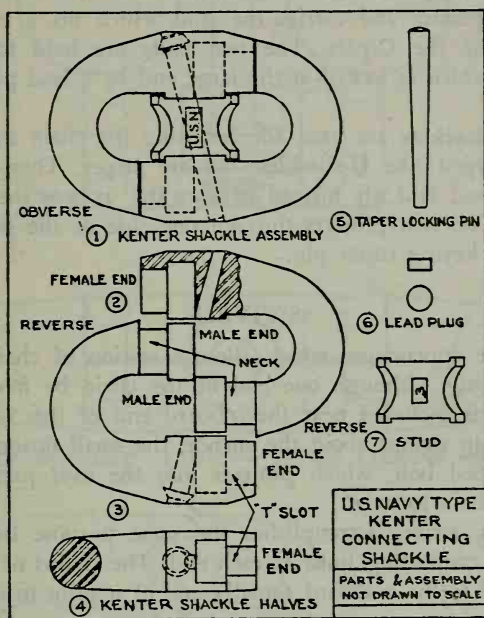

FIG. 37-3—Kenter shackle.
**Forged-steel Kenter shackles** (Fig. 37-3) are now standard. The T-neck and T-slots of each of the two parts are fitted together through the links which are to be joined, and are locked in place by the stud